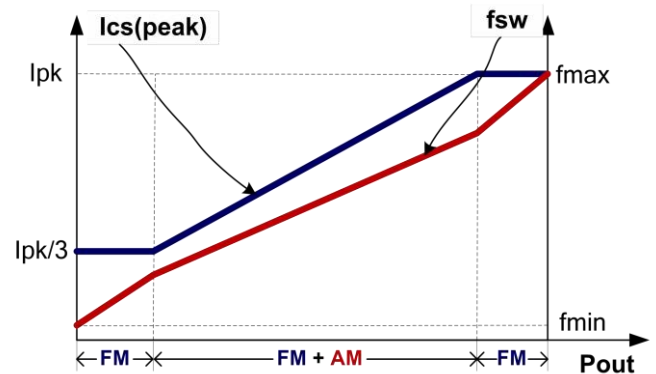

Fig.4
To meet the tight requirement of averaged system efficiency and no load power consumption, a hybrid of frequency modulation (FM) and amplitude modulation (AM) is adopted in CY305X which is shown in the Fig 4.